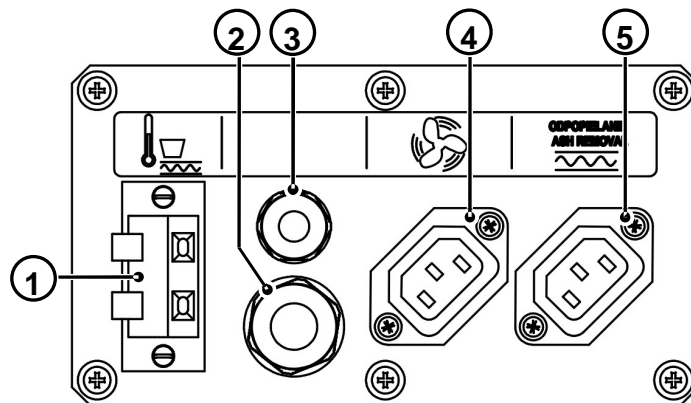
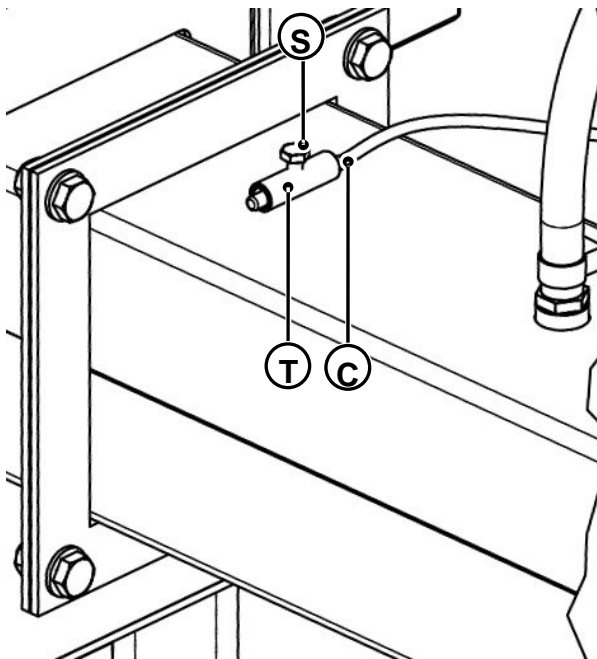

Fig. 2.5 Socket panel - rear of the boiler
Fig. 2.9 **FUEL FEEDER TEMPERATURE SENSOR INSTALLATION**
The measuring sensor (C, Fig. 2.9) should be installed into the socket (T) and fastened with a screw (S). **In order not to damage the metal casing of the sensor, tighten the screw with your hands. Connect the sensor to the terminal at the back of the boiler (1, Fig. 2.5).**